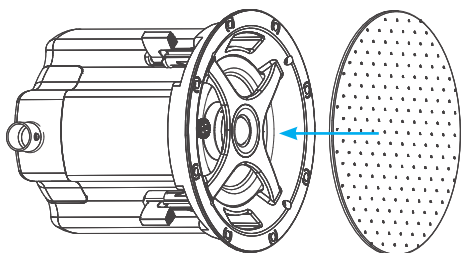

Figure 9: Grille Installation
9. After the speaker is installed, and transformer tap adjustments are made, the grille can be installed. The grille is held in place by several small, powerful magnets on the speaker frame. Place the grille against the speaker and the magnets will hold it firmly in place. When properly installed, the grille should make contact with the wall all the way around the speaker (see Figure 9).